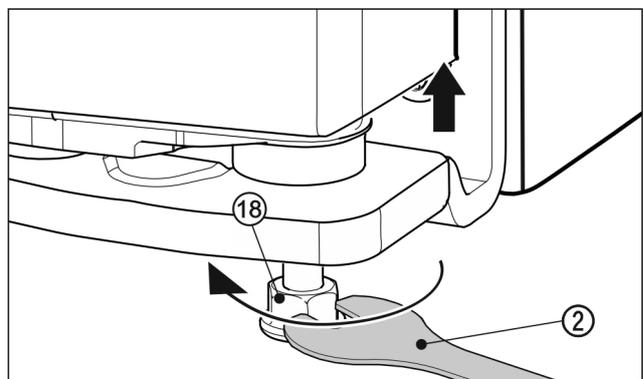

Fig. 26
- ▶ To lift the door, unscrew the adjusting foot Fig. 26 (18) clockwise using the supplied open-ended spanner Fig. 26 (2) until the foot makes contact with the floor. Then continue turning until the door is adjusted to the right height. When delivered, the bearing pin is completely screwed in.